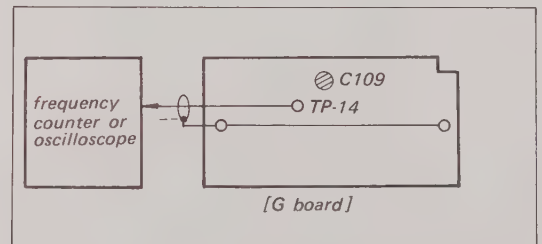

Fig. 8-30. 4.27 MHz oscillator adjustment test setup
2. Connect a frequency counter to TP-14 on the G board. See Fig. 8-30.
3. Adjust C109 for a reading of 4,267,919 Hz. See Fig. 8-30.